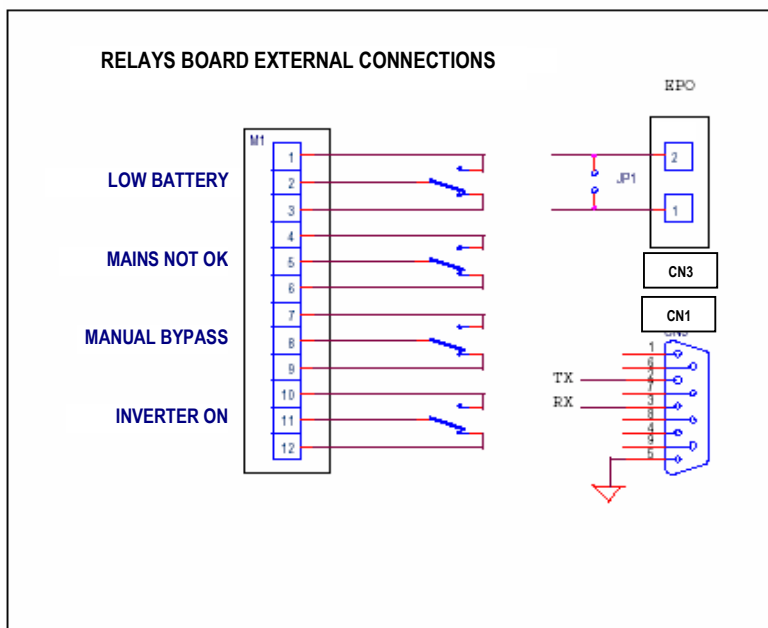

fig. 2.8b
Remote panel is connected to the UPS via the terminal board M1 located on the remote communication board (CS0118)(connection diagram fig. 2.8b). This device is used for remote monitoring of the main UPS blocks, the status of the main blocks is represented through LED, and there is also an acoustic alarm, which can be shut off with key 5.